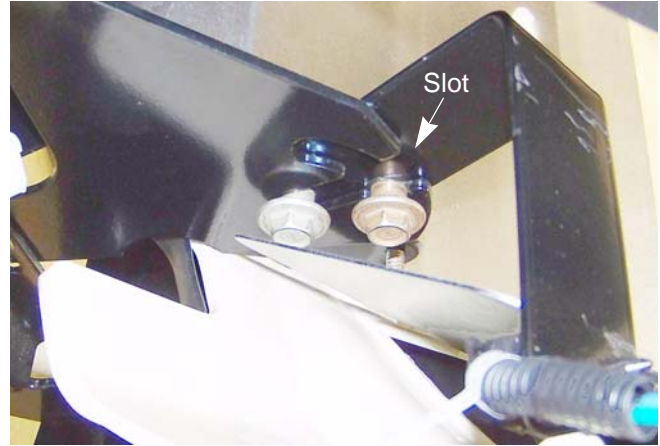

Figure 4.3
6. Open the hood far enough to align the tabs with the slots, then lift the hood off of the tractor. See Figure 4.3.